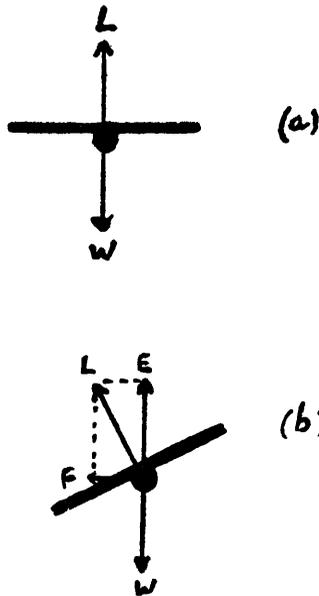

FIG. 23.
There is only one source—lift. Wing lift. Look at fig. 23 (a); the weight W of the glider is being counteracted by the lift L . (Ignore the component of lift needed to overcome drag.) If the glider is now banked, as in 23 (b), part of the lift is being used as centripetal force (F), which is going to hold the aircraft into a turn.